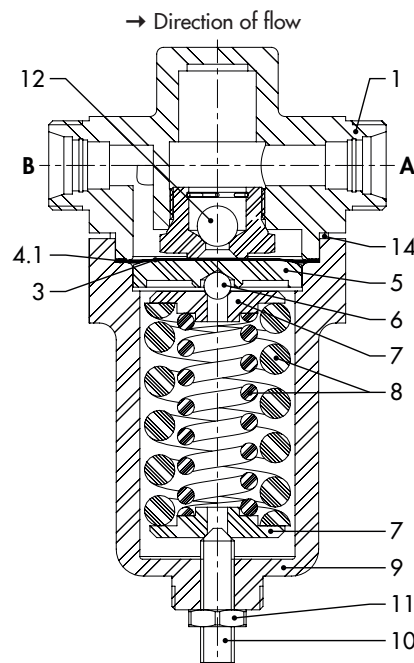

Fig. 3: Type 2357-21 Excess Pressure Valve
The medium flows through the **Type 2357-21 Excess Pressure Valve** (Fig. 3) from port B to port A. The valve is closed when no pressure is applied. The pressure at port B is transmitted internally to the operating diaphragm (3). The positioning force produced opposes the adjustable spring force. The valve opens when the pressure increases until the set point is reached. The integrated non-return unit prevents the medium from flowing back.